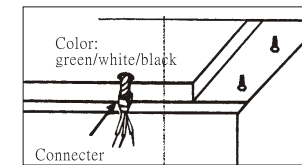

Fig.9
- Fish the electrical power line through the access hole drilled in the wall or bottom of the cabinet. Attach an appropriate connector (purchased locally) to the end of the power line for the type of wiring being installed. Follow all codes.(Fig.9)